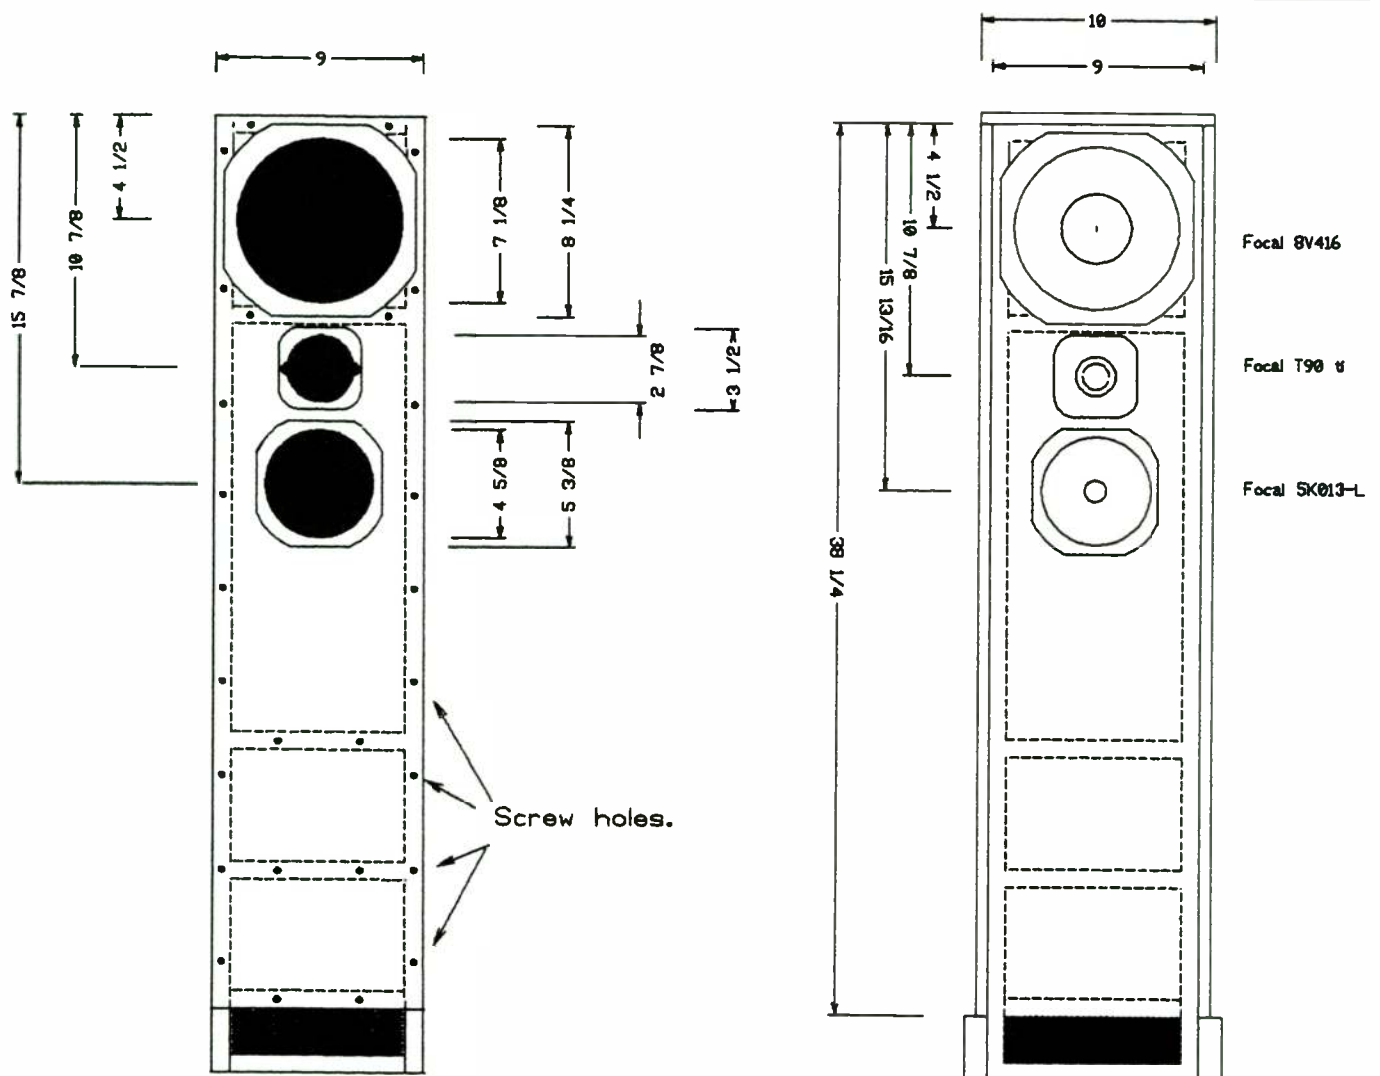

FIGURE 7: Speaker mounting dimensions with front baffle screw layout guide (left), and possible finishing treatment (right).
glue that squeezed out while it's still wet. 14. Position rear panel B and secure it with clamps. Lay out and drill the screw holes through panel B into the rear edges of panel A. Use Fig. 7 as a general guide even though it shows the front baffle. Figure 8 shows how top panel D and bottom panel O fit the assembly. In general, space all screws a minimum of 2" from baffle edges and about 4" apart.
20. Draw a centerline down the long axis of baffle B. Following Fig. 7, mark
21. Lay out and predrill the holes for fastening baffle C to the front edges of the A panels and to any horizontal baffles panel C touches (including F). Avoid sinking screws under the woofer frame. If you merely wish to surface-mount the drivers, attach baffle C next (Fig. 7). However, recessing the drivers is highly recommended (See sources below).